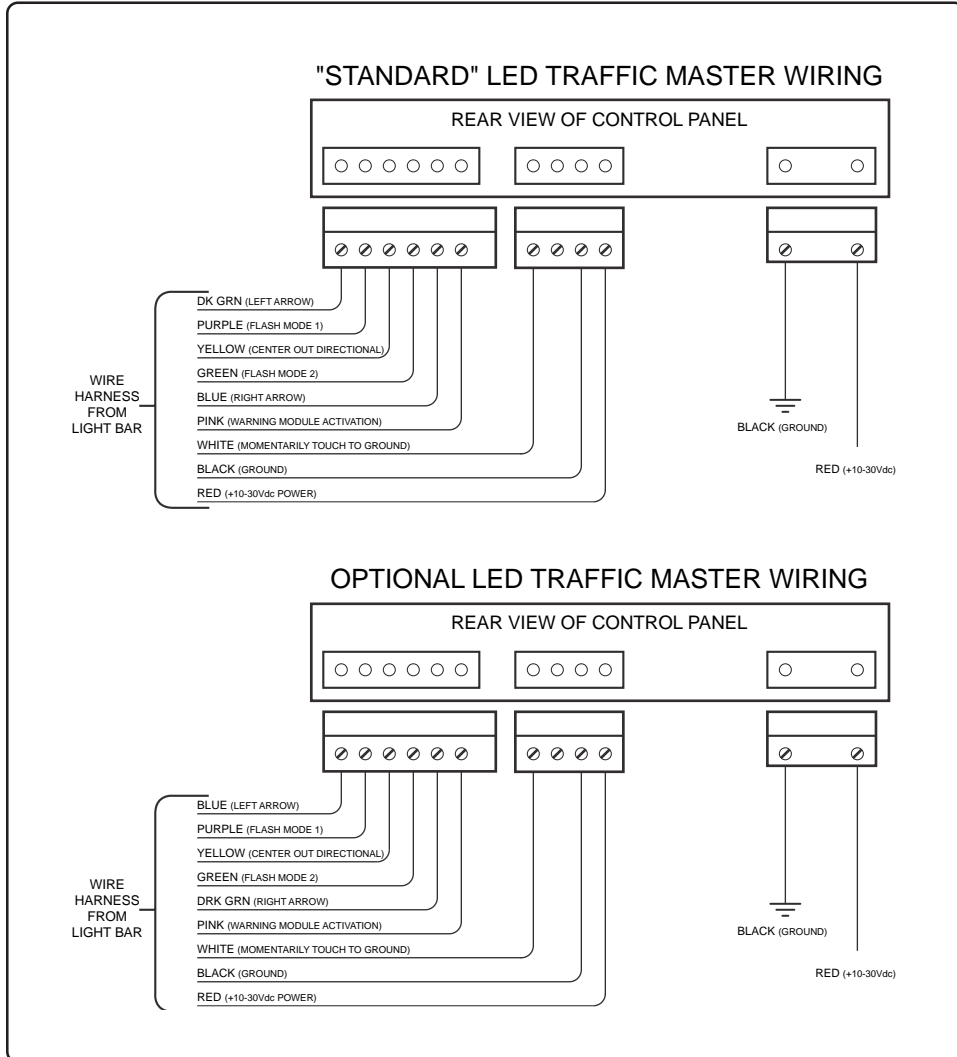

Figure 5. Standard and Optional Wiring Schematics
The LED Traffic Master should be mounted using the adjustable "L" brackets which are provided. Refer to page 5 for specific mounting instructions. In addition, note Figure 2, relating to mounting configurations as a self-contained light bar. See page 7, Figure 5 for hookup to control box.
4. Attach the power and ground wire to the appropriate pins in the 2 pin socket housing as shown in Figure 5.
5. Attach the wires from the 9 wire harness into the appropriate 6 & 4 pin connectors as shown in Figure 5. BE SURE TO PLACE THE PINS IN THE PROPER SEQUENCE!!!